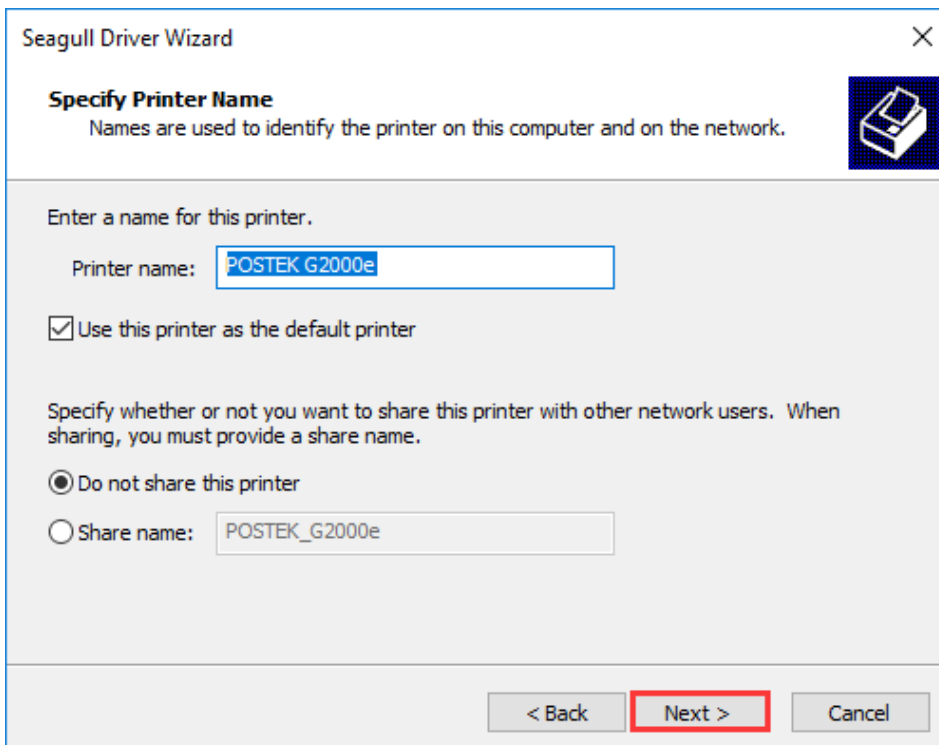

Figure 2-35 Specify Printer Name
10. On the “Specify Printer Name” screen, enter a name for the printer, as shown in Figure 2-35. Click “Next” to complete the driver installation.